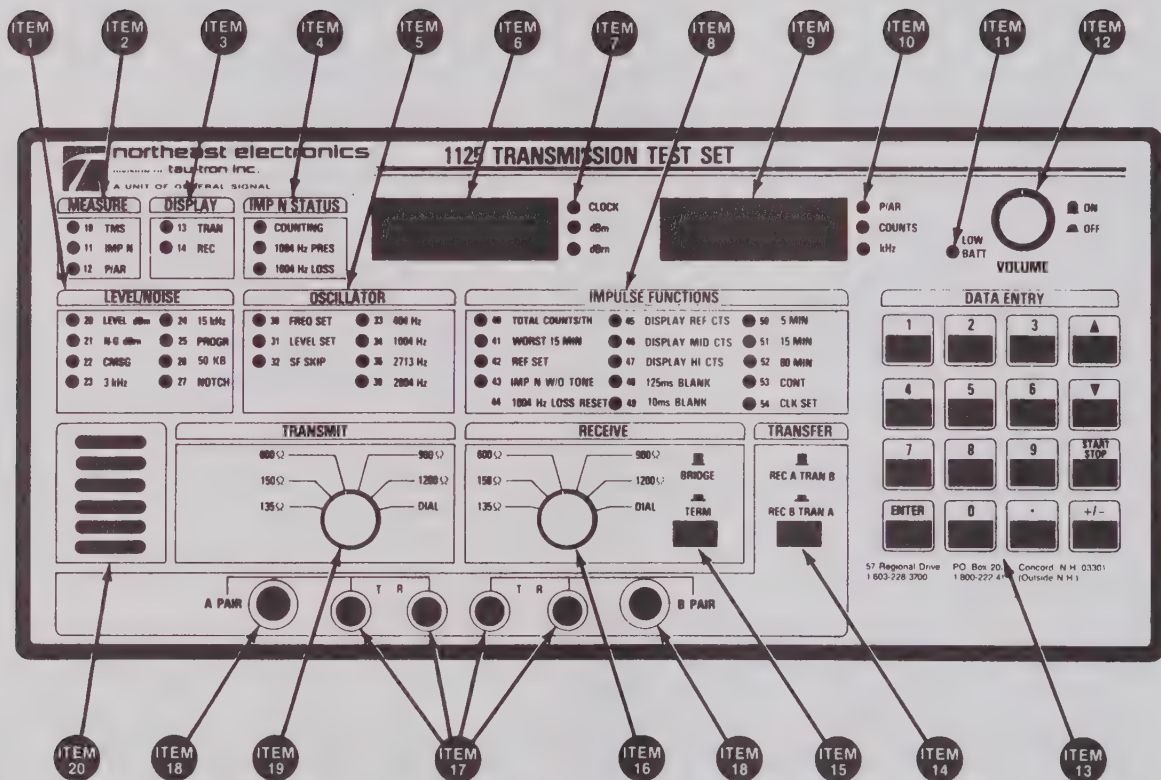

Figure 7.1 1125 Transmission Test Set Front Panel
7.1.1 ON/OFF/VOLUME SWITCH (Item 12, Fig. 7-1):
With the 1125 in the IMP N mode and set to RECEIVE, the operator may set the threshold for measuring hits and select the total time for making measurements by pressing the ENTER key, followed by the desired function. An audible signal will sound on each occurrence of a noise spike. Tone volume can be adjusted with the volume control (fig. 7-1, Item 12).